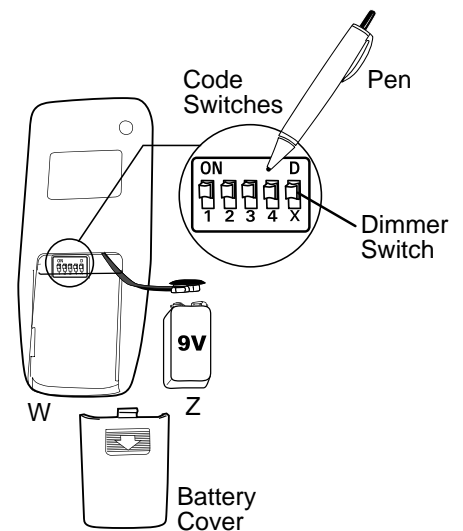

Fig. 1
6. Replace battery cover on remote control transmitter (W). [Fig. 1]
**IMPORTANT:** To prevent damage to remote control transmitter (W), remove the battery (Z) if not used for long periods. Store the remote control transmitter (W) away from excess heat or humidity.